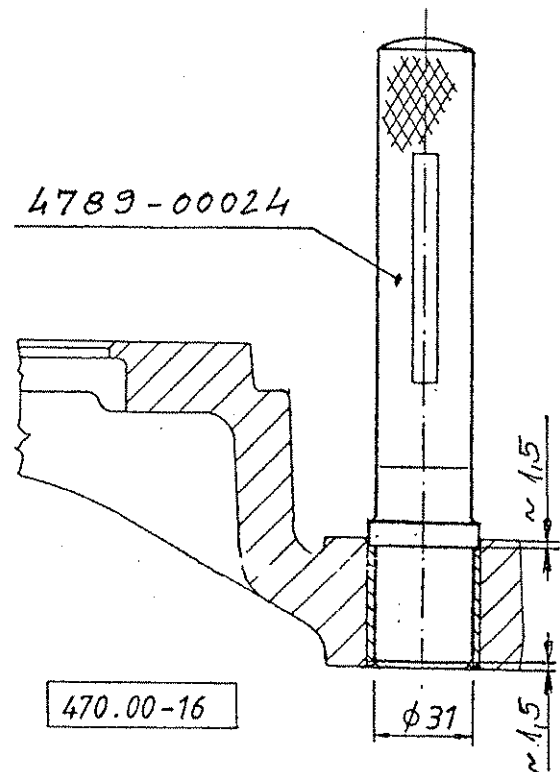

Fig. 1.: PRESSING THE BUSHINGS IN AND OUT
E.g.: If diameter of the trued up brake drum is **422 mm**, true up the brake shoe to **R210.6 - R210.3 mm** as shown in Fig. 1.
If the anchor pin bushing (16) are to be replaced, use the tool shown. Fig. 1.